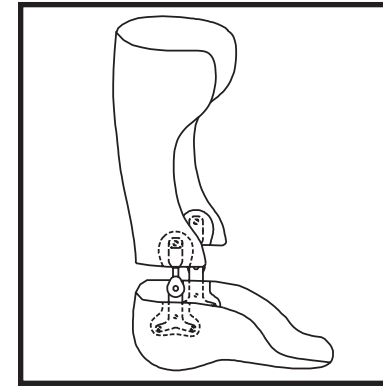

Figure 6: Additional Trimlines
12. Remove both alignment screws and draw trimlines just above the alignment screw on both medial and lateral upper sections of the ankle joints and at the apex of the lower section of the joints as shown in Figure 6. Extend all trimlines continuously from medial to lateral.